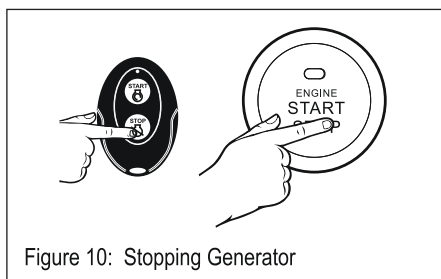

Figure 10: Stopping Generator
3. Move the Fuel Control Switch to the OFF position, press "Stop" on remote start key fob, or press the push button start once (see Figure 10).